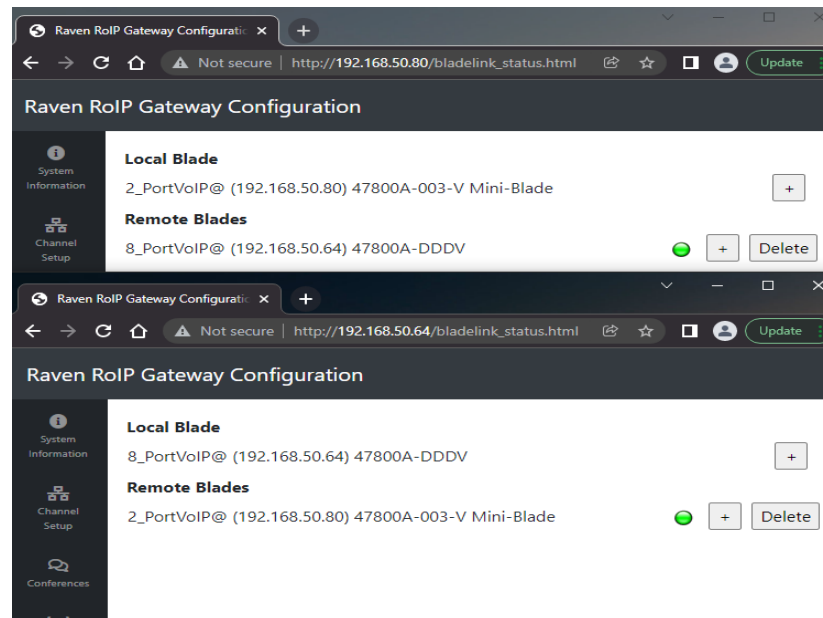

Figure 6-4: The “Bladelink Status” page showing the different Local Blades and Remote blades depending on which website you are looking at.
13. Navigate to the “Bladelink Status” page on the left side panel on both the blades. The two blade’s information now should be seen under “Local Blade” and “Remote Blade”. The “Local Blade” is the blade that is associated with that webpage. The “Remote Blade” would be the other blade that is not associated with that webpage. This is reversed if you look at the other blade’s webpage. This is shown in Figure 6-4. The Green LED on the “Remote Blade” indicates that it is properly linked, and the unit is not down.